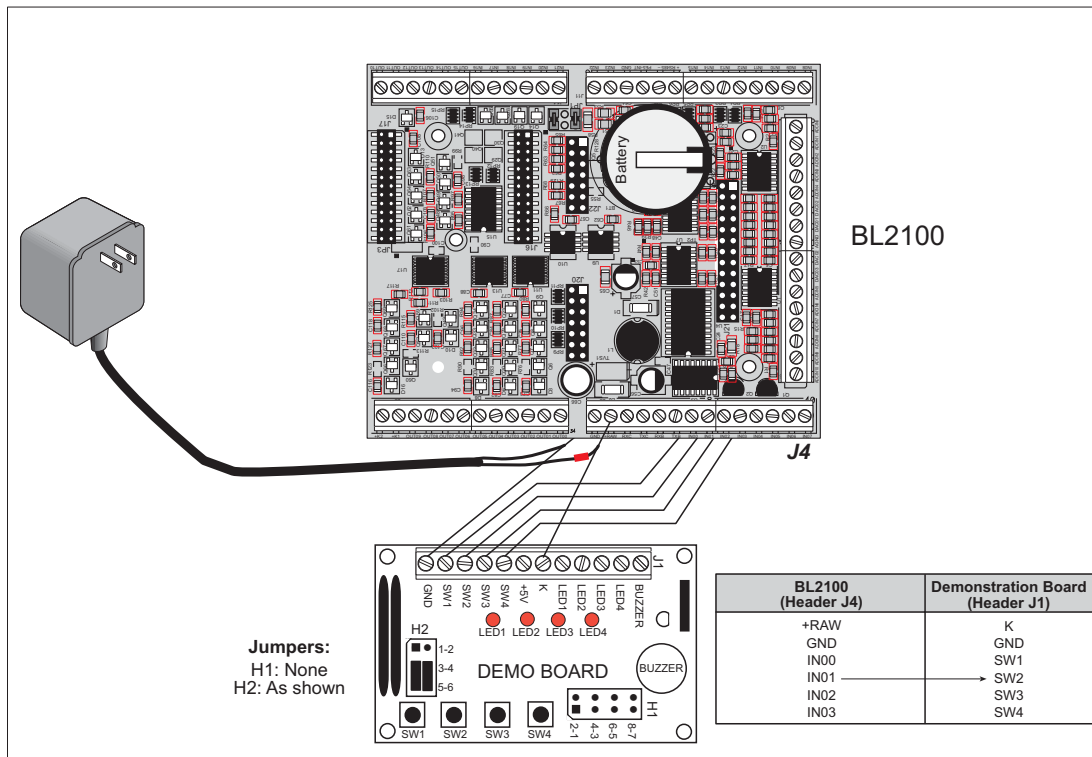
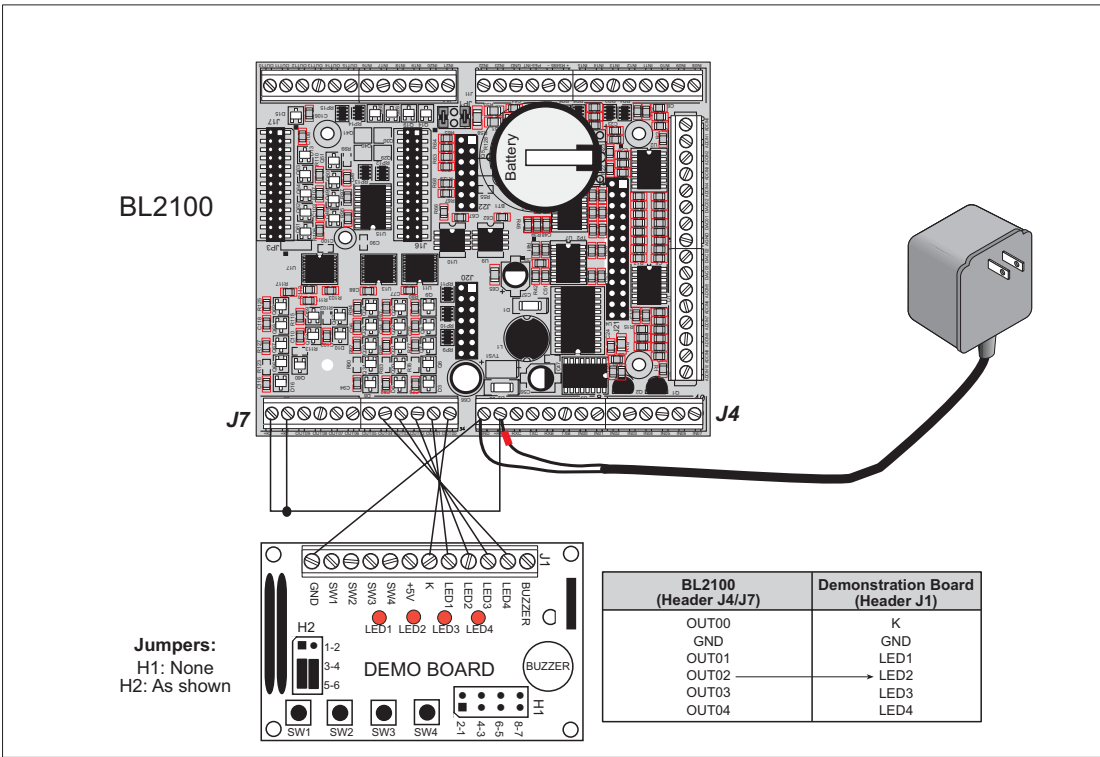
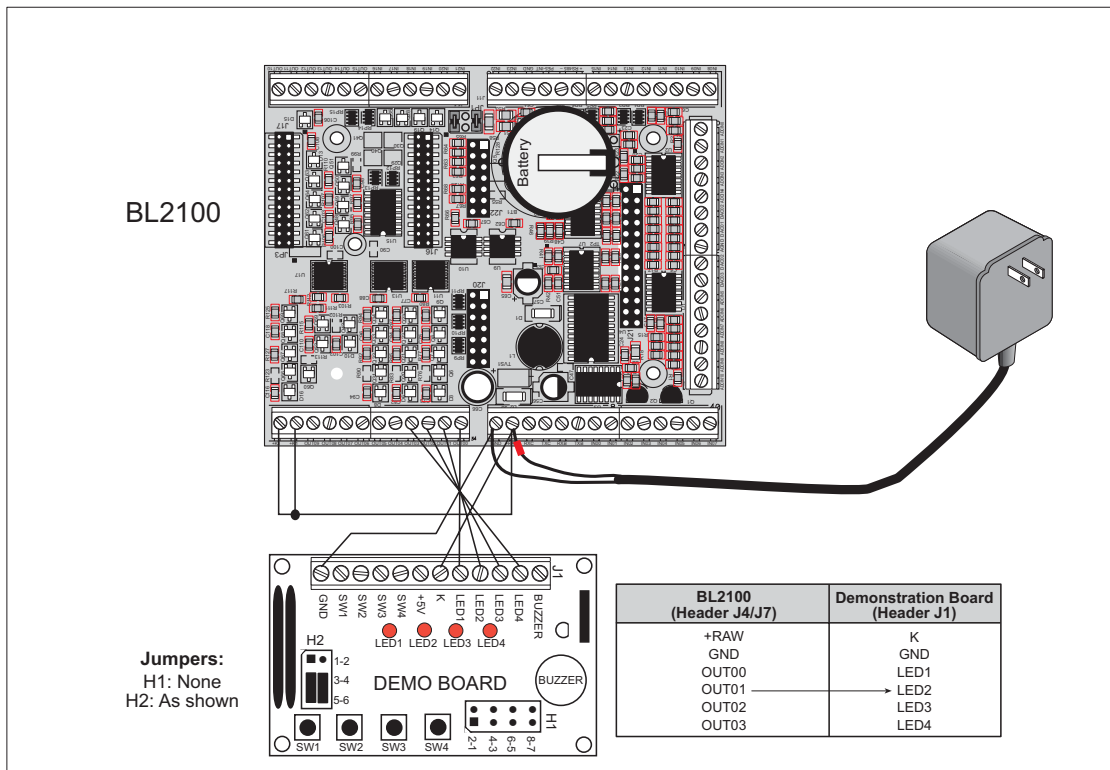

Figure E-1. General Digital Input Connections Between BL2100 and Demonstration Board
Figure E-2. Digital Output Connections Between BL2100 and Demonstration Board
Figure E-3. SSI .C Connections Between BL2100 and Demonstration Board
1. Use the wires included in the BL2100 Tool Kit to connect header J1 on the Demonstration Board to screw-terminal headers J4 and J7 on the BL2100. The connections are shown in Figure E-1 for sample program **DIGIN.C** and for sample program **SMTP.C**, in Figure E-2 for sample program **DIGOUT.C**, and in Figure E-3 for sample program **SSI.C**.
NOTE: +K1 and +K2 on screw-terminal header J7 must be connected to +RAW on screw-terminal header J4 as shown in Figure E-2.
NOTE: +K1 and +K2 on screw-terminal header J7 must be connected to +RAW on screw-terminal header J4 as shown in Figure E-3.